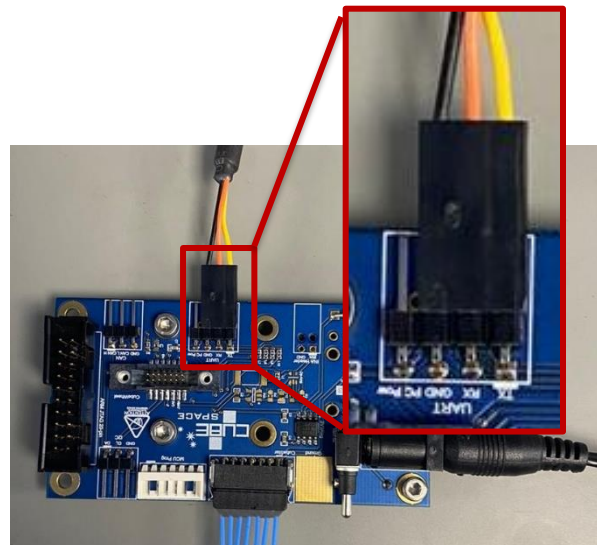

Figure 3 USB-to-UART Connection on CubeSupport
5. Communication to and from the CubeSense during the health check, is conducted through the provided FTDI USB-to-UART 3-pin cable. Connect the cable to the CubeSupport UART pins by ensuring that the black wire is connected to the "GND" pin on the CubeSupport board as shown in Figure 3.